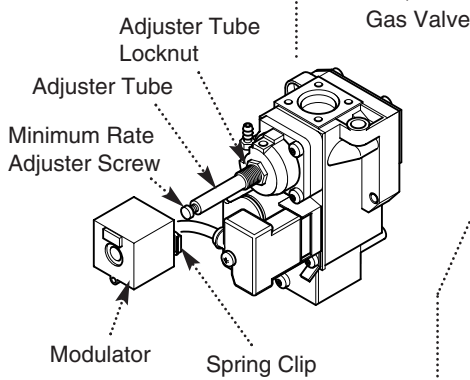

Fig. 35
- Adjusting the Pressure** (Fig. 35)